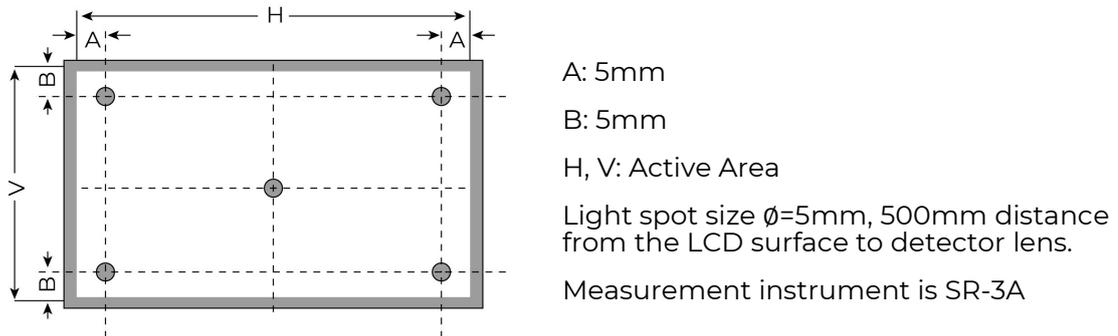

Figure 3. Measuring method for Contrast ratio, surface luminance, Luminance uniformity, CIE (x, y) chromaticity
**Note 6.** Viewing angle is the angle at which the contrast ratio is greater than 2. For TFT module the contrast ratio is greater than 10. The angles are determined for the horizontal or x axis and the vertical or y axis with respect to the z axis which is normal to LCD surface. For more information see Figure 3.